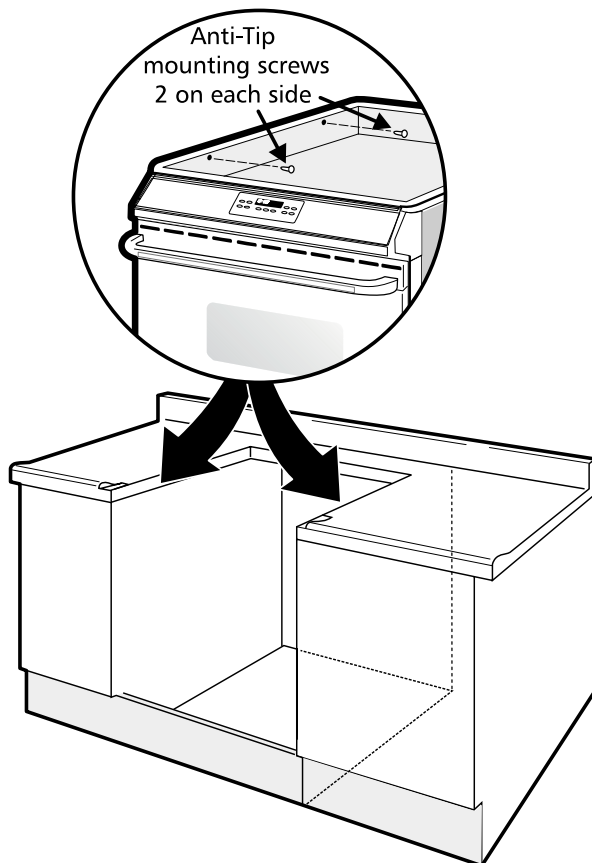

Figure 4
- Ranges with a lift-up cooktop have 4 anti-tip screws included in the literature pack (see Figure 4). Lift the countertop and secure range burner box to cabinet with these screws to prevent range from tipping.